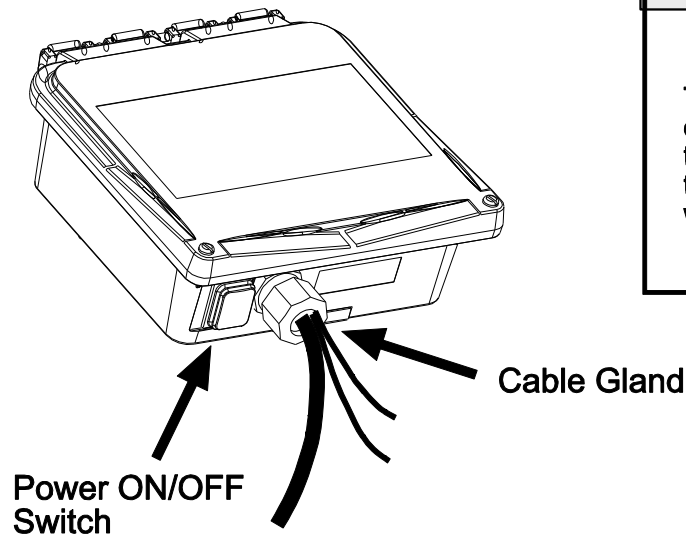

FIGURE 18
4. A Thermostat (available as an accessory, Part No. 30525010, or an environmental controller, etc.) is also required for each brooder or group of brooders as shown in the schematic. The schematic (Figure 18) shows a group of four (4) brooders controlled by one (1) thermostat. Additional zone groups having more or less brooders can be added. These should be wired the same as shown in the schematic.